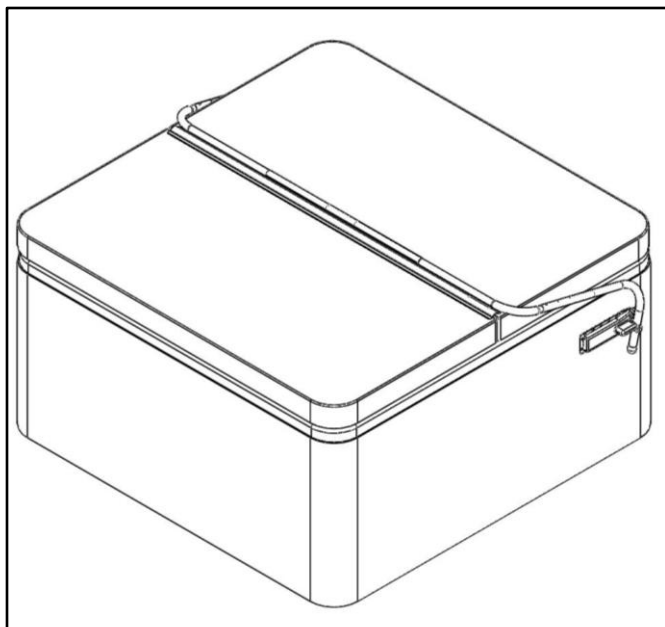
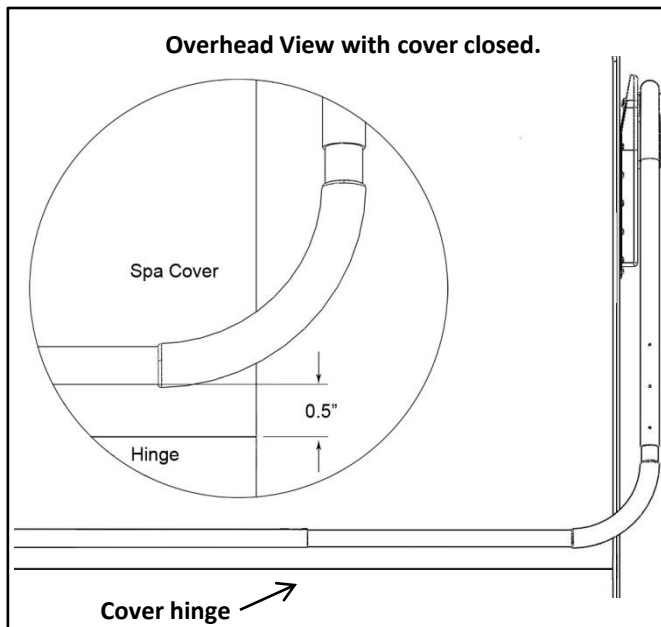

Figure 8A
Figure 8B
8. Lay the Cover EX on the spa cover, see Fig 8A. Adjust the Center Coupler Assembly and the Support Arms (EX-A) so that the Center Coupler Assembly is lying parallel to the spa cover hinge approximately $\frac{1}{2}$ " away. See Fig 8B.